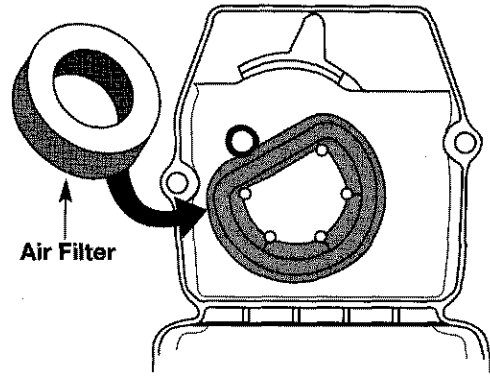

Fig. 36
2. Remove the air filter from behind the air filter/muffler cover (Fig. 36).
6. Replace the air filter in the air filter/muffler cover (Fig. 36).